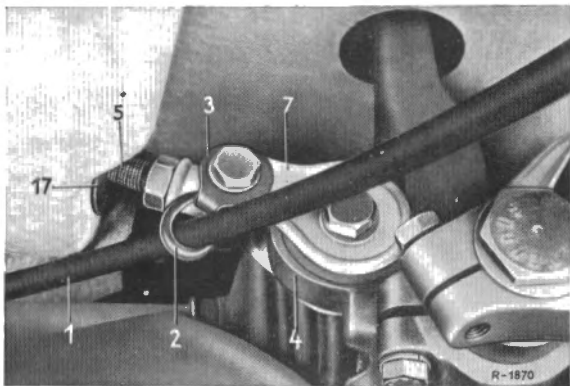

Fig. 35-1a/3
In principle the arrangement of the cross strut is the same as on other models. In order to remove the inner rubber buffer (3) the retainer for the rubber buffers (14) must be removed after the five hexagon screws (15) have been unscrewed (Fig. 35-1a/2).